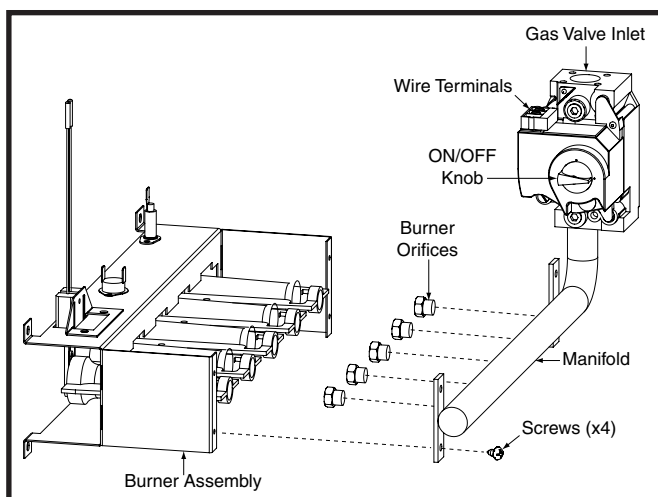

Figure 37. Burner & Manifold Assembly
4. Remove the door from the burner compartment. See Figure 37 \(page 27\).